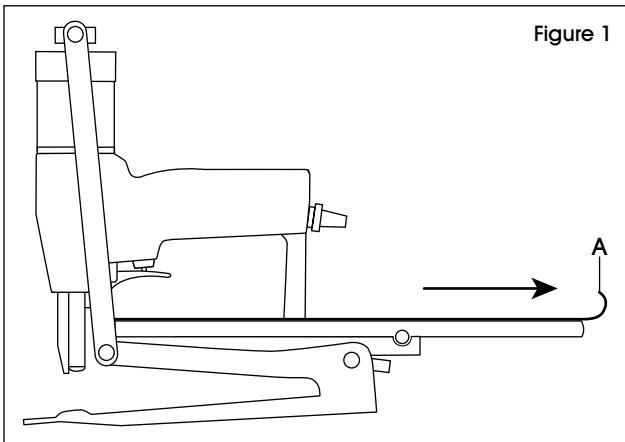

Figure 1
1. Pull the magazine lid (A) fully out. (See Figure 1)